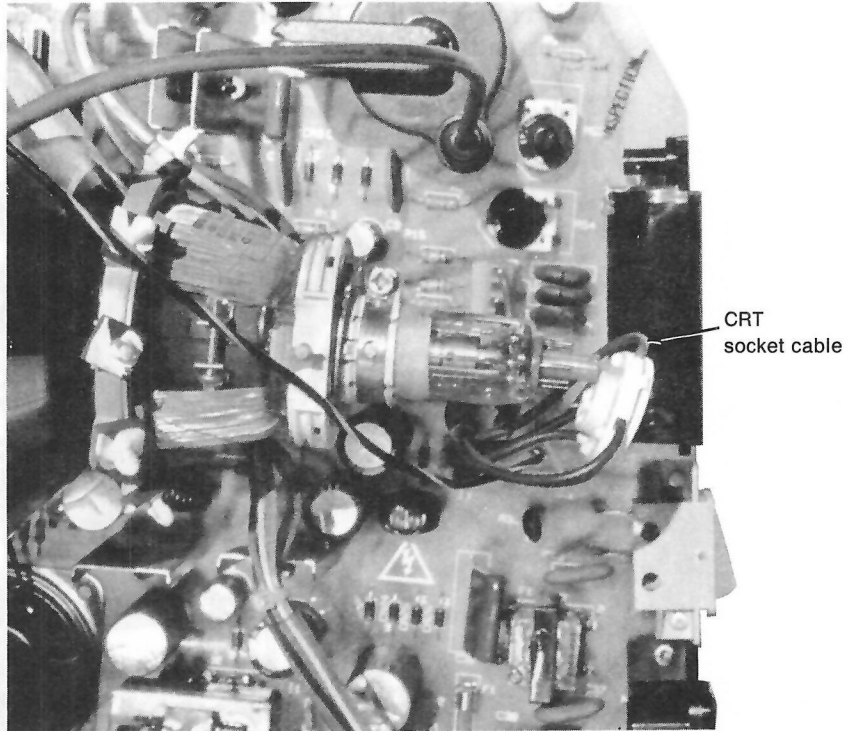

Figure 9-3 CRT socket cable—removal details.
9. As shown in Figure 9-3, gently slip the CRT socket cable off the neck of the CRT. Use a light touch. The neck of the CRT is fragile!